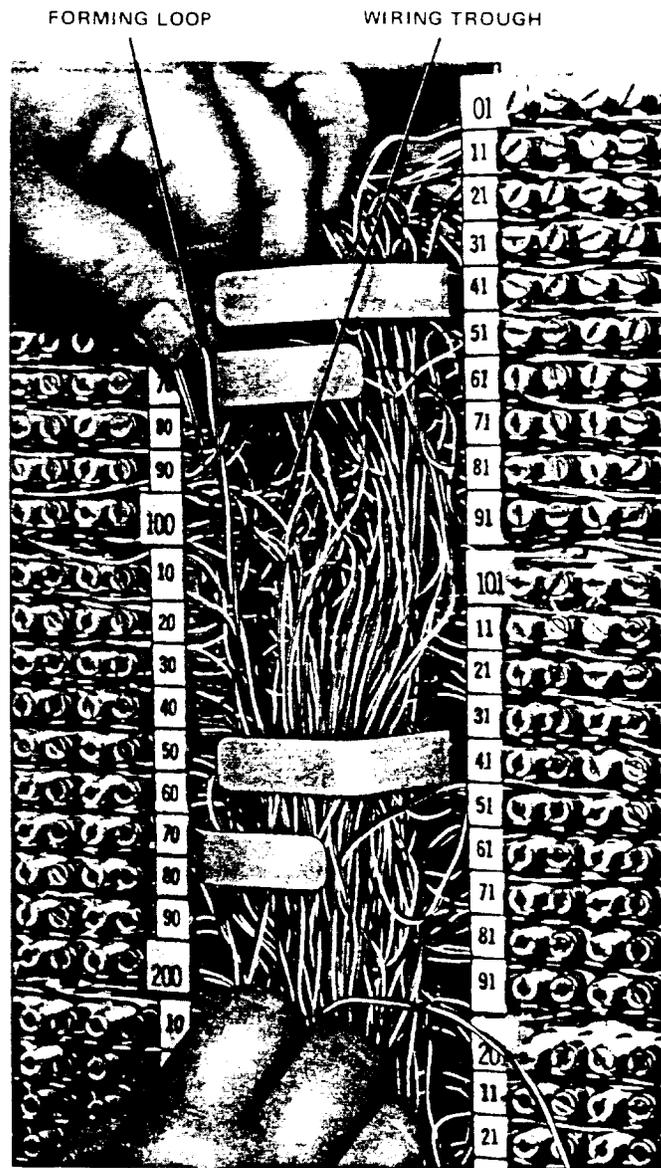

Figure 15. Forming Finger Loop and Placing Wire in Wiring Trough
- (1) Using an orange stick, dress the cross-connecting wire horizontally along row of binding post. Under no circumstances are screwdriver or scissors to be used to dress the wires.
4.04 Form a finger loop for slack as follows (Figure 15):